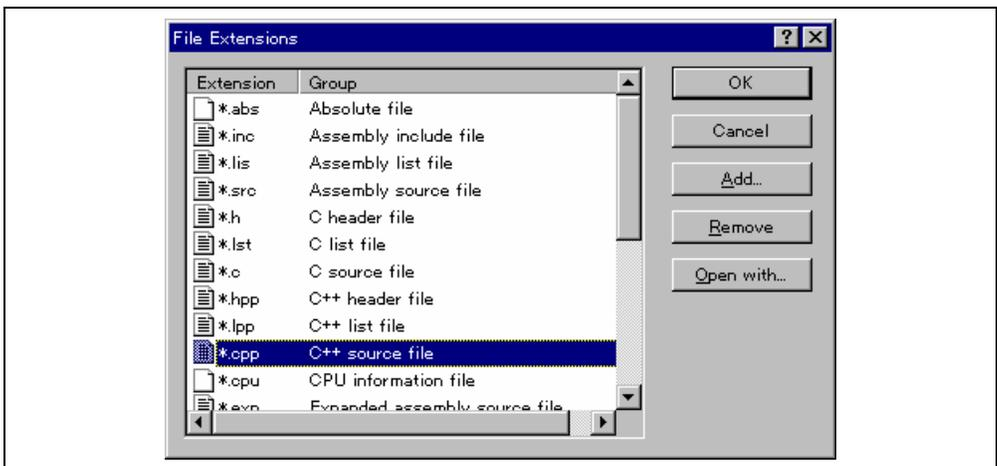
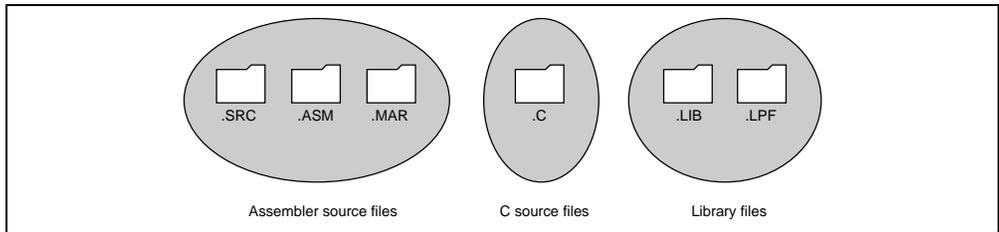

Figure 2.7: File Extensions Dialog
Figure 2.8: File Extensions and Groups
File extensions and file groups can be viewed and modified via the “File Extensions” dialog (figure 2.7). This is invoked by selecting [**Project->File Extensions...**]. This dialog displays all of the extensions and file groups, which are defined within the current workspace.
The “File Extensions” list shown in figure 2.7 is divided into two columns. On the left are the file extensions themselves, whilst on the right are the file groups. Many file extensions can belong to the same group. For example, assembler source files may have several extensions in a single project (e.g. .src, .asm, .mar etc) as shown in figure 2.8.
1. Select [**Project->File Extensions...**] from the menu bar. The “File Extensions” dialog will be displayed (figure 2.7).